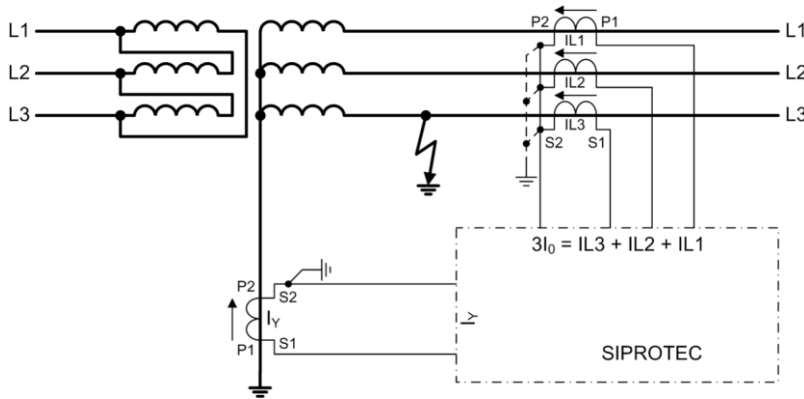

Figure 2 Basic Principle of the Function
- To differentiate between internal and external faults, the angle difference between the neutral-point current (I_Y^*) and the calculated zero-sequence current ($3I_0^*$) is taken into consideration in the operate curve. Effect of Pickup Value The restraint current ($I_{Rest,REF}$) is calculated from the measured currents. The reference arrows are defined as positive when pointing to the protected object (see Figure 2). Consider that the neutral-point current (I_Y) detected using the 1-phase measuring point is displayed as positive in the fault record and in the DIGSI 5 Test Suite if the current flows from the protected object to ground.